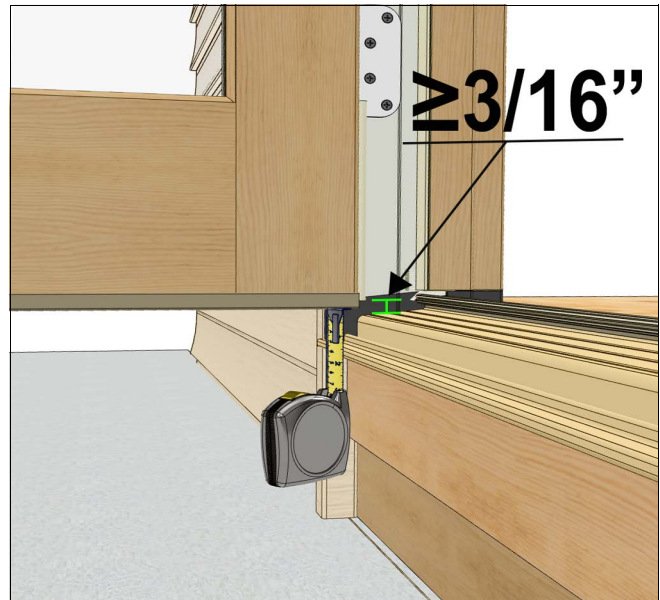

Figure 13
2. Check panel clearance at the sill. The panel should have a minimum of 3/16" (5) clearance at the bottom. The vertical adjustment screw should be adjusted equal amounts starting with the bottom hinge. Check index mark on hinge leaf to determine amount and direction of panel movement. See Figure 13.